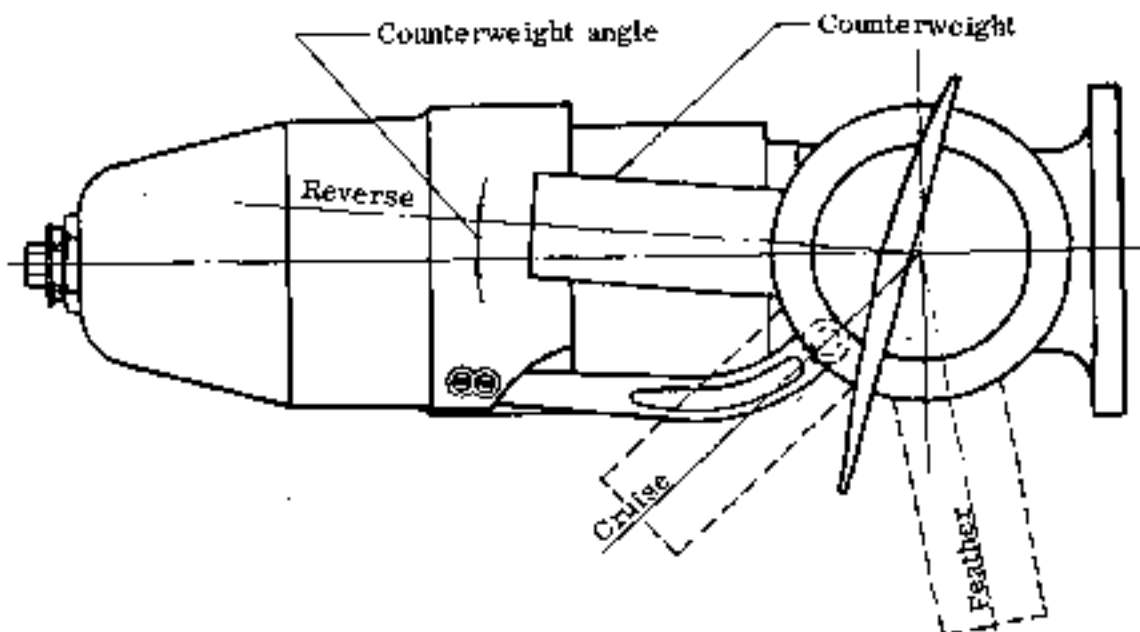

Fig. 6-57
- (1) Inspect blade clamps and hub spiders for cracks and corrosion.
- (2) Visually inspect the blades for cracks, particularly around the shank retention area and along the leading edge near the tip.
- (3) Electrical resistance in de-icer boots line shall conform to the provision of Para. 5.4.1, Chapter IX.
- (4) Inspect cylinder surface for damage that may cause leakage.
- (5) Check parts removed in accordance with Para. 13.9 for dimensions as set forth in Para. 13.12.
- (6) Check ball spacer, split bearing and the balls for wear.
- (7) Inspect hub pilot tube for slippage. The tube should extend out from hub $3 \frac{3}{4} \pm 1/16$ inch only. If this distance is greater, the indication is that the tube has slipped out of the hub spider. An oversize tube should replace the one which slipped.
- (8) Check dimension "C", Fig. 6-57.
- (9) Temporarily attach spinner dome to bulkhead. Check dimension "A" in Fig. 6-57.
- (1) Blade end play in peripheral direction shall not exceed 1/16 in. (1.6 mm).
- (2) Fore and aft blade movement at tip shall not exceed 0.1 in. (2.5 mm).
- (3) Blade track of blades shall not exceed $\pm 1/16$ in. (± 1.6 mm) when measured at 4 in. (101.6 mm) point from tip with blades in flat pitch position.
- (4) No blade slip shall occur between clamp and blade when blade is torqued to 167 ft-lbs. (23 kg-m) with respect to pitch control axis.
- (5) Counterweight angle should be located within 2° beyond the propeller axis when in reverse pitch. (See Fig. 6-57)